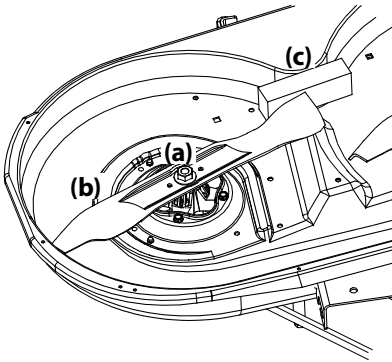

Figure 4-16
2. Use a $1\frac{5}{16}$ " wrench to hold the hex nut on top of the spindle assembly when loosening the hex nut (a) securing the blade (b). A block of wood (c) may be placed between the deck housing and the cutting edge of the blade (b) to help in breaking loose the hex nut (a) securing the blade. See Figure 4-16.